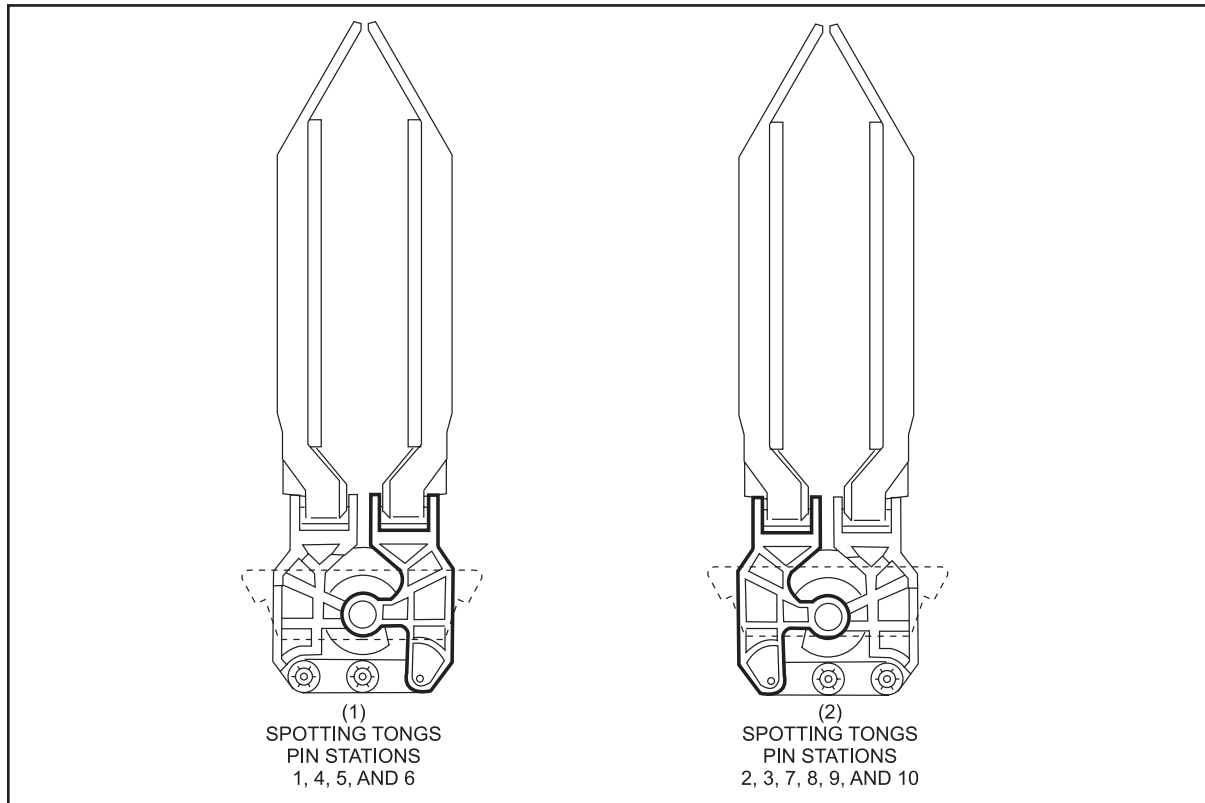

Figure 8-7. Spotting Tongs.
5. Select the correct type depending on the position of the tongs in the table. Refer to *Figure 8-7*.